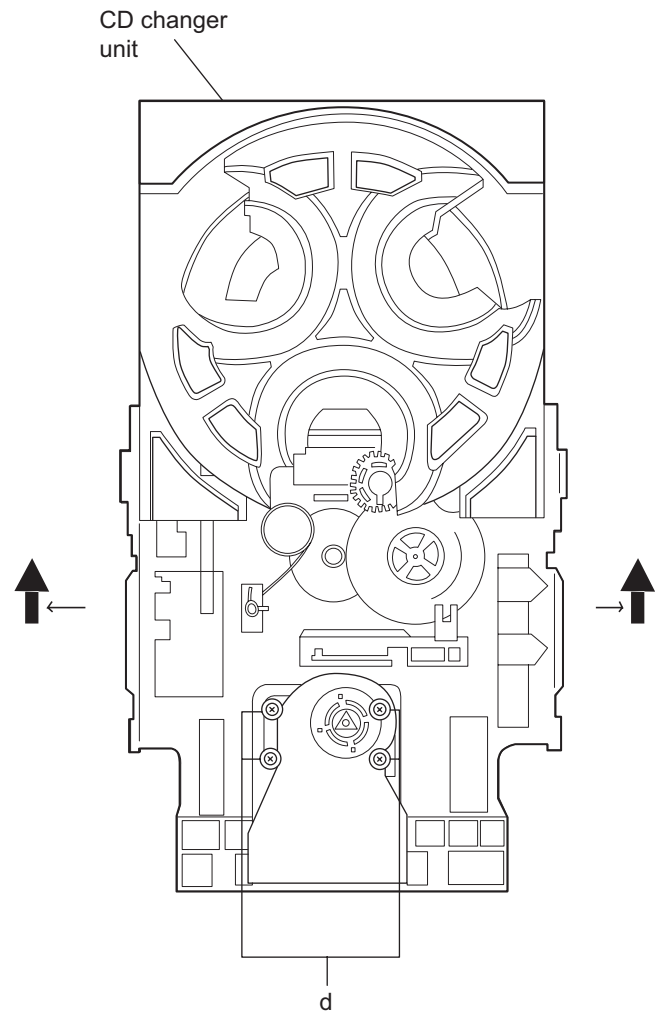

Fig.14
3.1.8 Removing the CD changer mechanism assembly (See Fig.14 to 15)